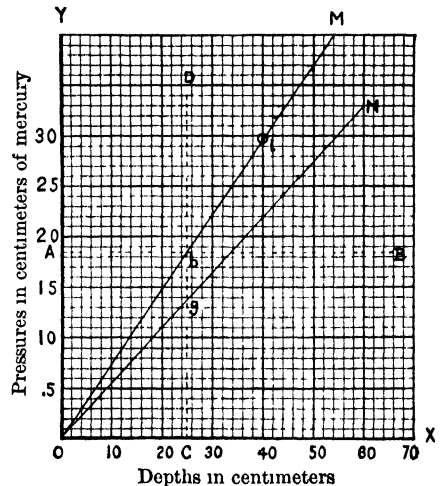

FIG 10
**III. Graphical representation of a direct proportion.** That the pressure in any liquid is directly proportional to the depth is shown graphically by Fig 10 The curve, or 'graph,' for a direct proportion is seen to be a straight line
On a sheet of coordinate paper plot your own data. Choose a scale along *OX*, that is, to the right of the origin *O*, so that the greatest depth will come near the right side of the page (For example, the greatest depth plotted in Fig 10 was 60 cm in gasoline) Choose a different scale along *OY*, that is, above the origin, so that the greatest pressure will come at least halfway to